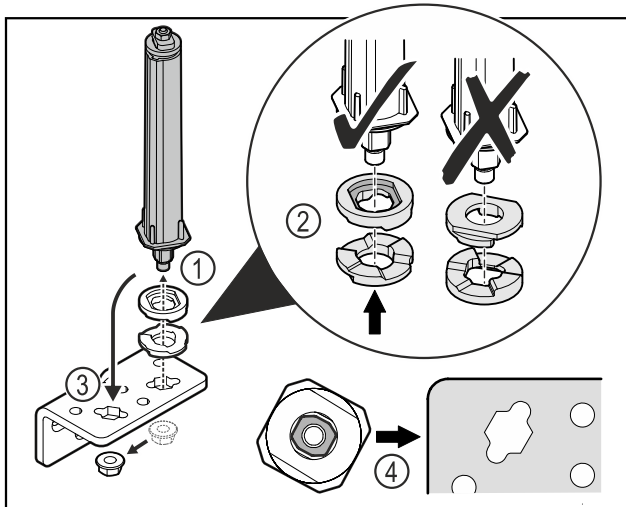

Fig. 34
- ▶ Loosen the nut and remove the door closing system Fig. 34 (1).
- ▶ Observe the correct alignment of the height adjustment washers Fig. 34 (2).
- ▶ Put the door closing system in the hinge and fix in place with the nut Fig. 34 (3).
- ▶ Observe the correct alignment of the door closing system when doing so Fig. 34 (4).